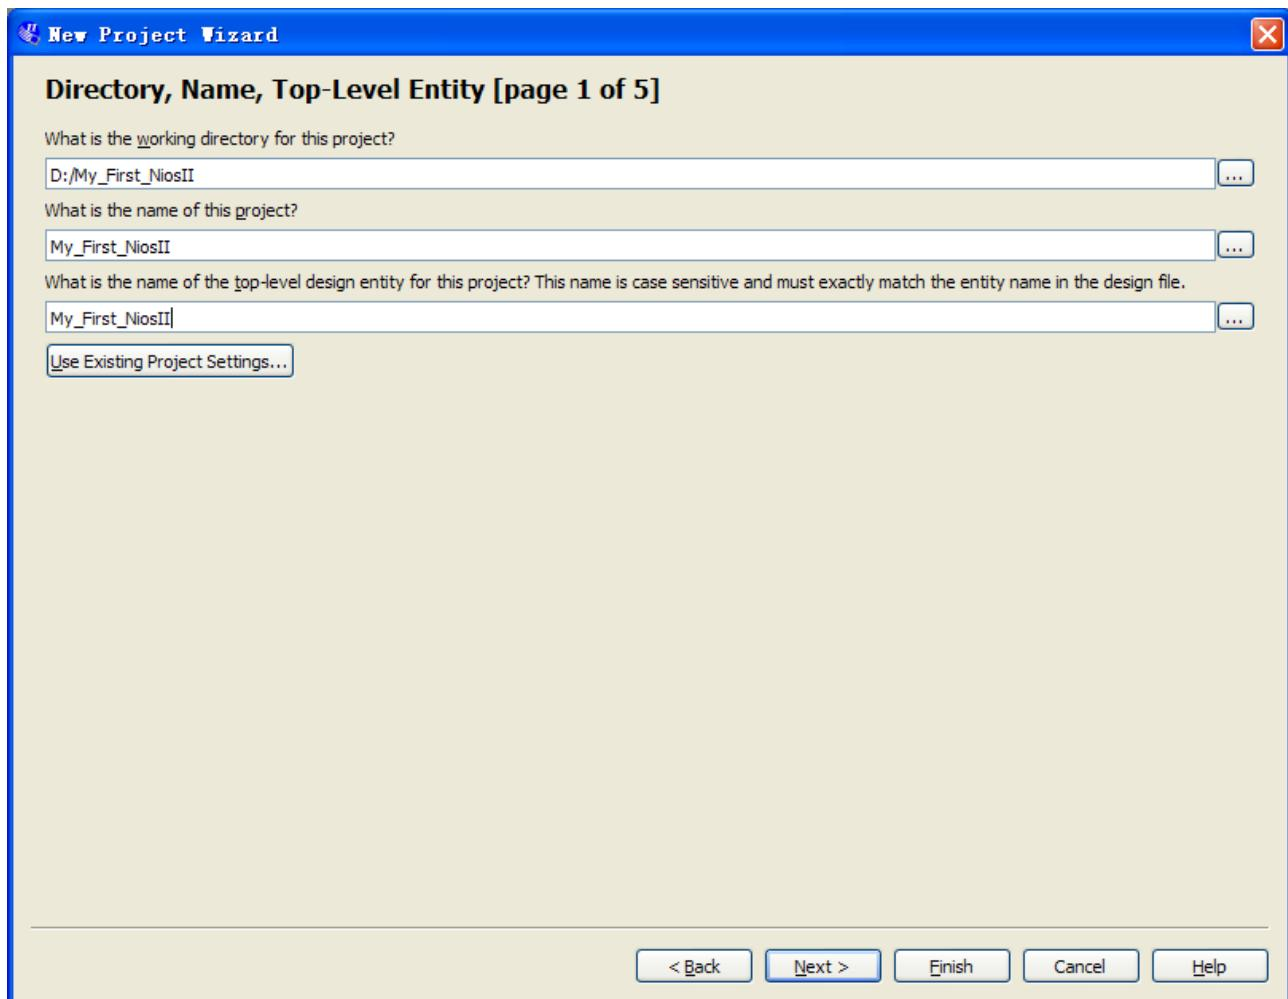
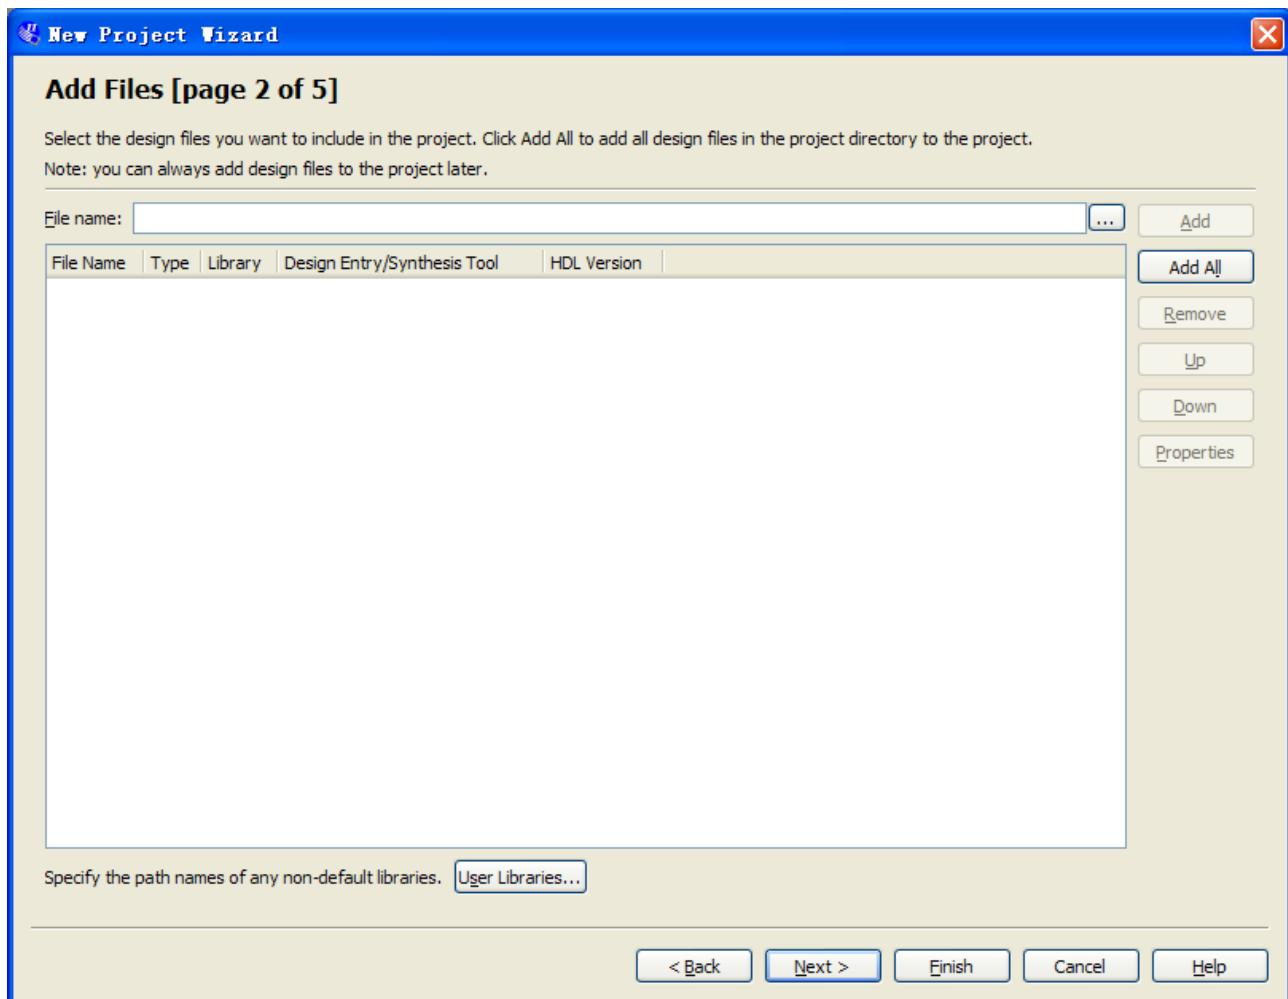

**Figure 1-1 Start to Create a New Project**
**Figure 1-2 New Project Wizard**
1. Launch Quartus II then select **File->New Project Wizard**, start to create a new project. See Figure 1-1 and Figure 1-2.